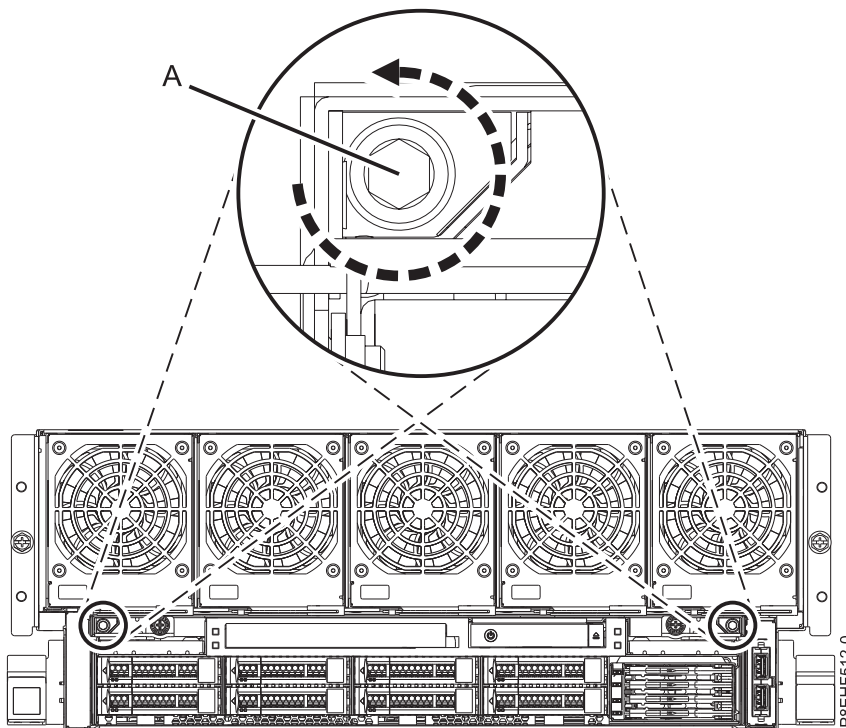

Figure 2. Loosening the shipping screws
2. Loosen, but do not remove the recessed shipping screws (A) in the RAID assembly by using a 4 mm Allen wrench, as shown in Figure 2.